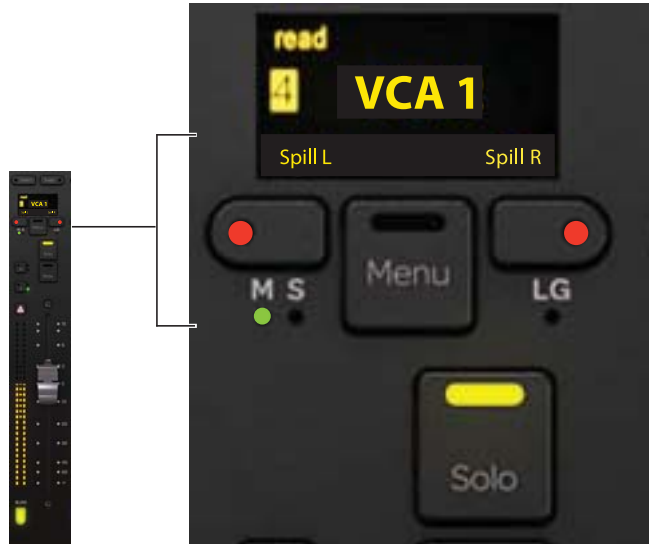

Figure 41. Spill controls and indicators when Menu switch is pressed, showing a VCA slave (S indicator LED lit yellow)
- 2 Press and hold **Menu** on that strip; The strip OLED shows Spill L and Spill R above the two switches next to Menu (see Figure 41). If the strip is the first or last strip in the system (left- or right-most), only the one possible choice (spill right or left) is available.